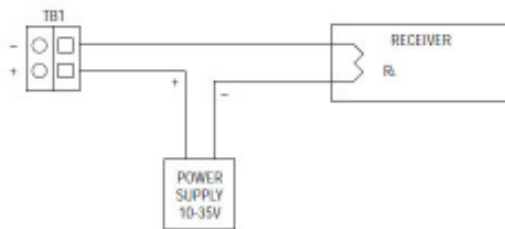
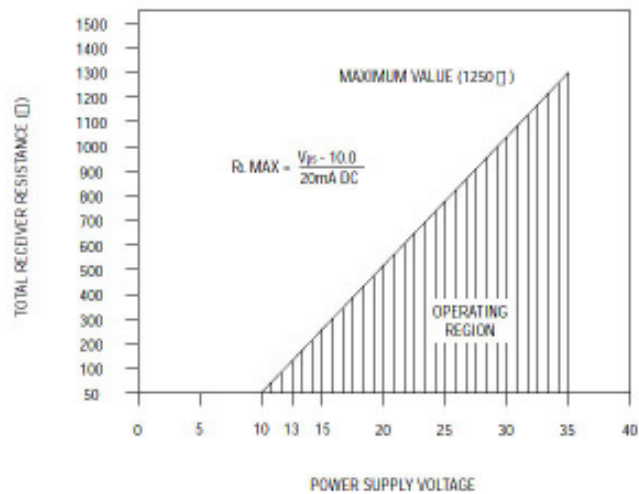

Figure 1
Figure 2
Refer to Fig. 1 for connection of the power supply, transmitter and receiver. The range of appropriate receiver load resistances (RL) for the power supply voltage available is given by the formula and graph in Fig. 2.